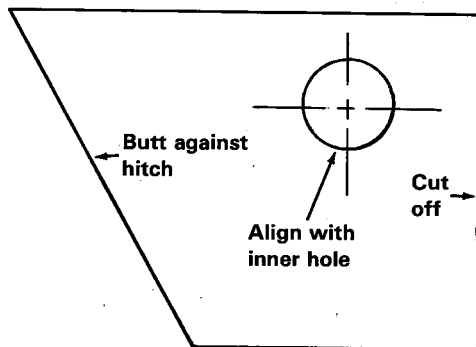

Figure 9. Template
1. The hitch arms must be shortened so that inner holes can be used. Cut out the template (figure 9). Align the template hole with the inner hole in hitch and edges of template with edges of hitch. Scribe a line along outer edge of template. Remove the template and saw off the hitch arm along line. Repeat for each hitch arm.